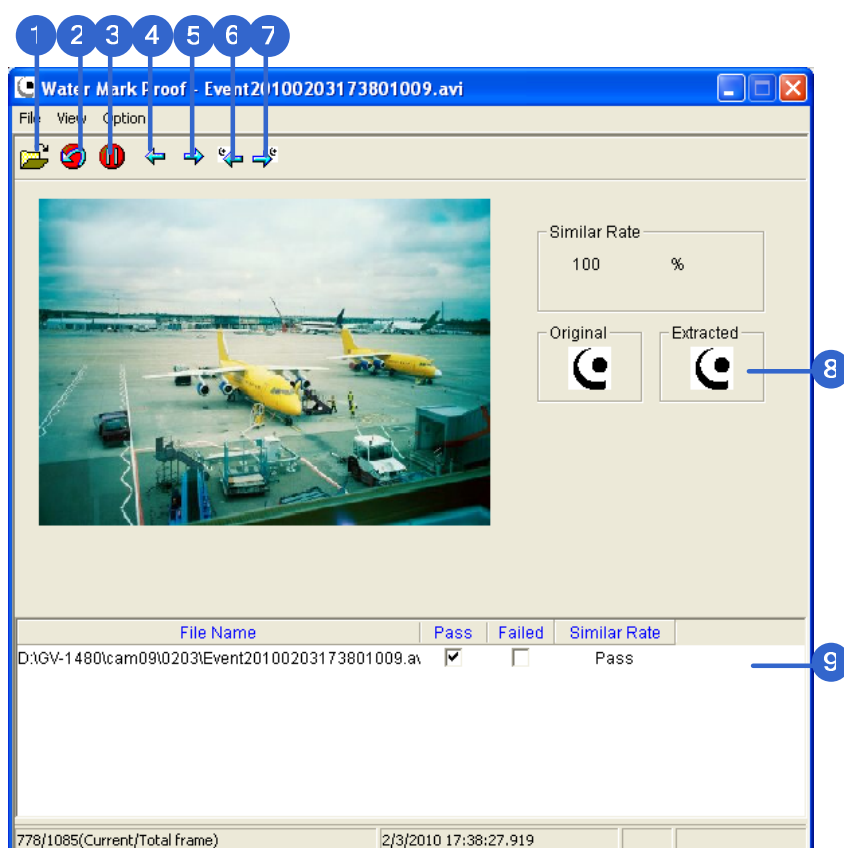

Figure 9-7
2. Click **File** from the menu bar, select **Open**, locate the recorded file (.avi) and click **Open**. The selected file is listed on File List (No. 9, Figure 9-7). Alternatively, you can directly drag the file from the storage folder to the window.